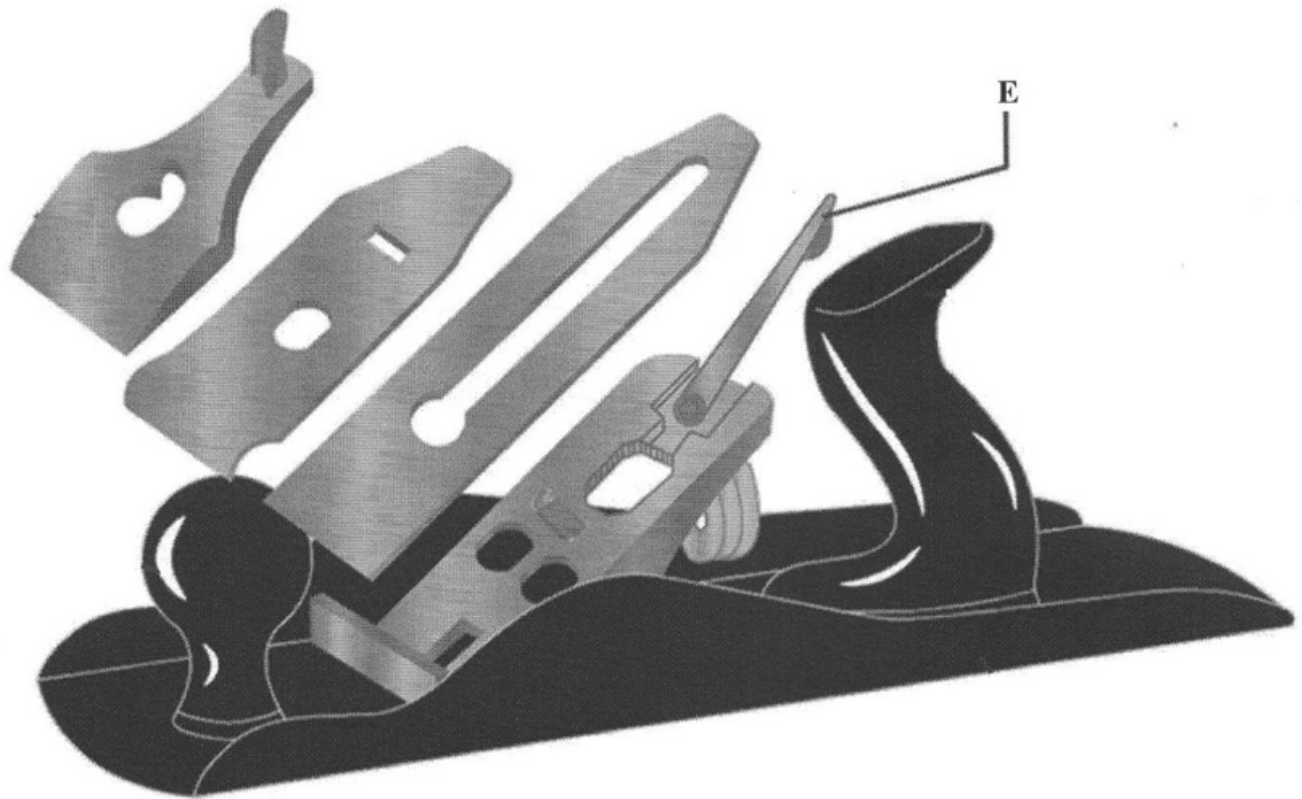

Figure 2
4. **Figure 2** shows a disassembled smoothing plane.